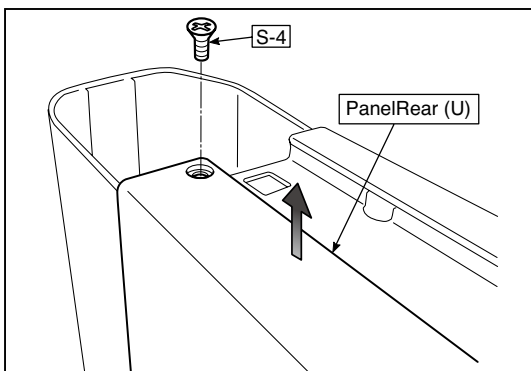

Fig.25
1. Remove the "S-4" screws shown in the figure 25 and then remove the Panel Rear (U).